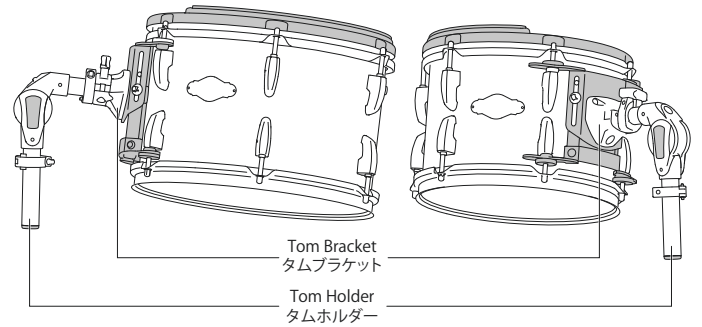

Fig.9
2. Attach the Toms to the Tom Holders and position the height and angles to your preference. When done, set the tab on the Stop Lock into the slot on the Pipe Clamp and Tom Holder Bracket. Then tighten the Key-Bolts with the provided Drum Key to retain the setting (Fig.9).
タムホルダーの位置と角度を調整します (Fig.9)。